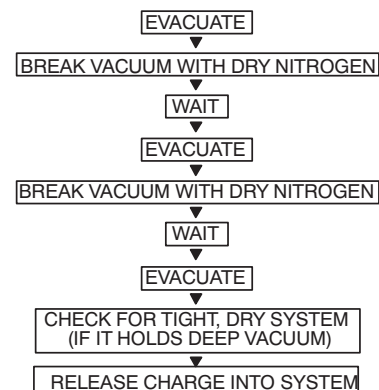

Fig. 22 — Triple Evacuation Method
The triple evacuation method should be used when vacuum pump is not capable of pumping down to 500 microns and system does not contain any liquid water. Refer to Fig. 22 and proceed as follows:
5. Repeat this procedure as indicated in Fig. 22. The system should now be free of any contaminants and water vapor.